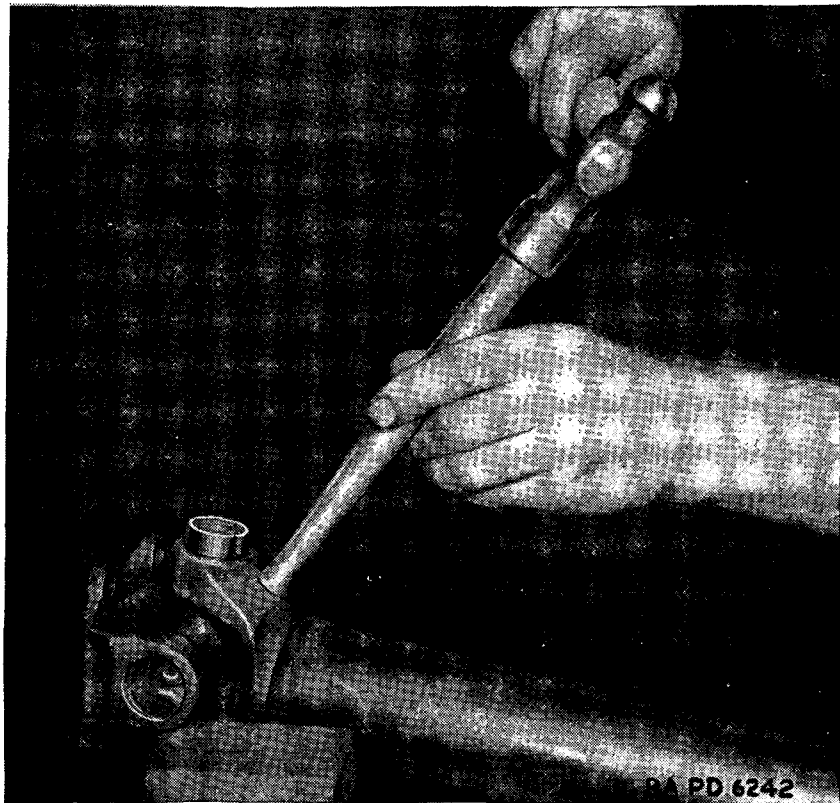

FIGURE 72.—Propeller shaft universal joint needle bearing removal.
(2) Remove needle bearing—brass drift, hammer (or press). Drive end of one bearing (A175484) with brass drift until bearing on opposite side of journal drops out of yoke. If bearing does not readily drop out, drive with drift against yoke (fig. 72). This should loosen bearing sufficiently to allow it to be driven out by striking on opposite bearing. Turn joint over and drive first bear-